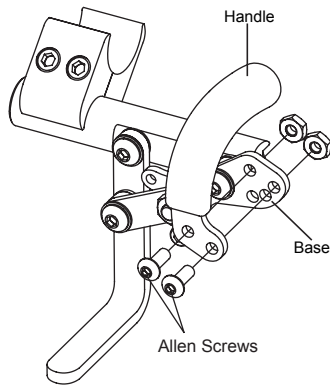

Figure 96
1. As shown in Figure 96, the wheel lock handle attaches to the wheel lock handle base with two Allen Screws. There is only one hole in the wheel lock handle base through which to attach the upper Allen Screw. There are three holes in the wheel lock handle base through which to attach the lower Allen Screw.
1. Remove the two Allen Screws and nuts that secure the wheel lock handle to the wheel lock handle base on both the right and left Uni-Locks. See Figure 96.